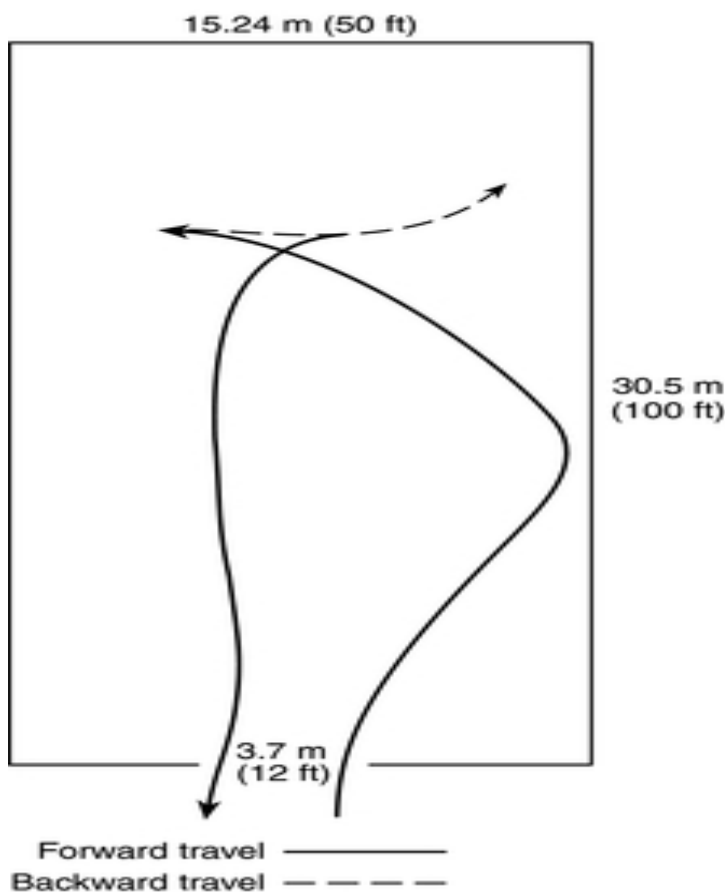

FIGURE A.4.3.4 Confined Space Turnaround.
A.4.3.4 The confined space turnaround can be used as practice for meeting or in the evaluation of this requirement. This exercise measures the driver's ability to turn the vehicle around in a confined space without striking obstacles. The turn is accomplished within an area 15.24 m \times 30.5 m (50 ft \times 100 ft). The driver moves into the area from a 3.7 m (12 ft) opening in the center of one of the 15.24 m (50 ft) legs, turns the vehicle 180 degrees, and returns through the opening. There is no limitation on the number of times the driver has to maneuver the vehicle to accomplish this exercise, but no portion of the vehicle should extend over the boundary lines of the space. (See Figure A.4.3.4.)